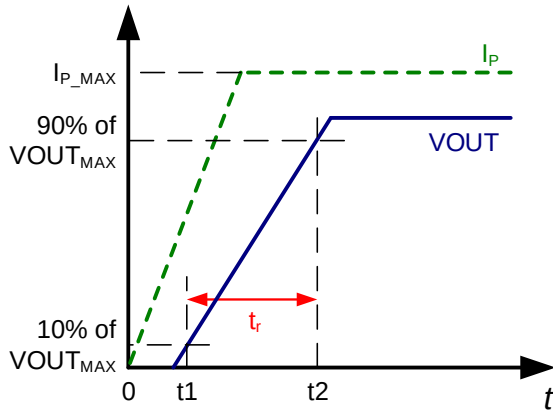

Figure 7: Rising Time (t_r)
2. $t2$: The sensor's V_{OUT} reaches 90% of its full scale value (see Figure 7).